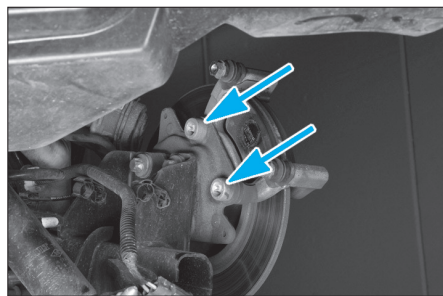

FIG. 11
- le support d'étrier (Fig.11).
- le support d'étrier (Fig.11),